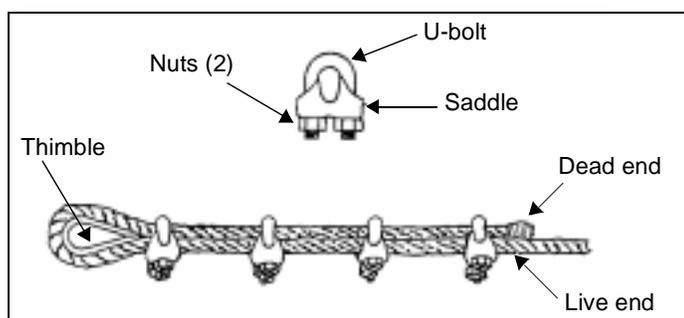

Figure 13-1. Eye splice
- Make all eye splices (*Figure 13-1*) using the proper size of wire-rope thimbles.
- Place the U-bolt of the U-bolt clips on the dead (short) end of the wire rope (see *Figure 13-1*). Tighten the U-bolts immediately after initial load application and at frequent intervals thereafter. *Table 13-4* shows the number and spacing of clips and the proper torque to apply to the nuts of the clips (do not over torque). The minimum number of clips is three.